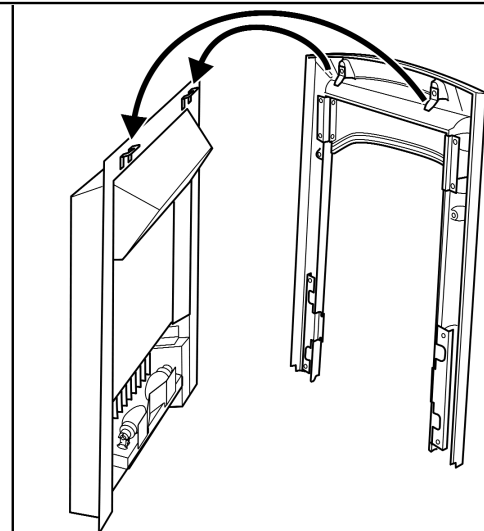

Figure 14. Fitting the fascia. The fascia shown is the 'Dream'. The Bolero, Carma, Eternal, Obsession and Victorian fascia fit in the same way.
1. Hook the brackets on the rear of the fascia over the brackets on the heater (See figure 14).
1. Fit the fascia to the heater by hooking the brackets on the rear of the fascia over the brackets on the heater (See figure 14).